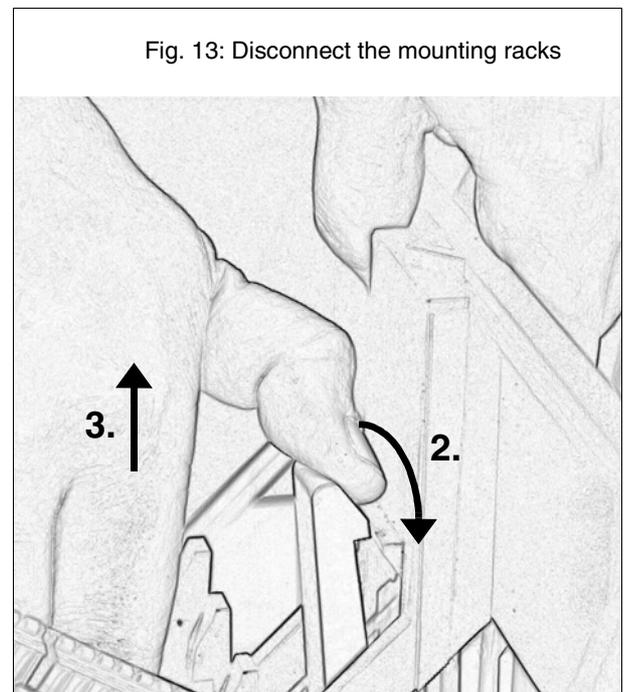

Fig. 13: Disconnect the mounting racks
- Use the thumb of one hand to loosen the light grey latch in the lower part of the casing. See Fig. 13.
- Use the other hand to pull the blue mounting rack diagonally upwards away from the light grey mounting frame. See Fig. 13.